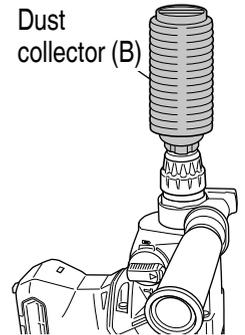

Fig. 10
(Optional accessories) **(Fig. 9, Fig. 10)**
- Installing dust collector (B)
When using dust collector (B), insert dust collector (B) from the tip of the bit by aligning it to the groove on the grip. **(Fig. 10)**.